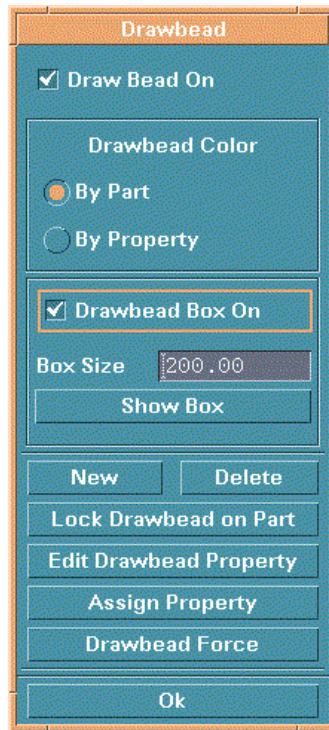

Figure 5.3 Draw Bead
The functions in the DRAW BEAD menu are used to create, modify, and lock draw beads on the user-defined part. The dialog window is shown in Figure 5.3.
1. Select NEW in the DRAW BEAD window, see Figure 5.3.